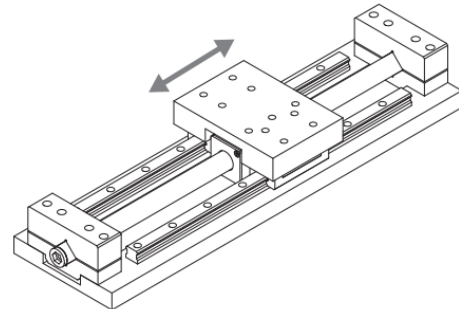

Figure5.2-13 Smoothness confirmation
- ▶ After the installation is complete, move, and slide the forcer base to confirm that there is no interference. (refer to Figure5.2-13)